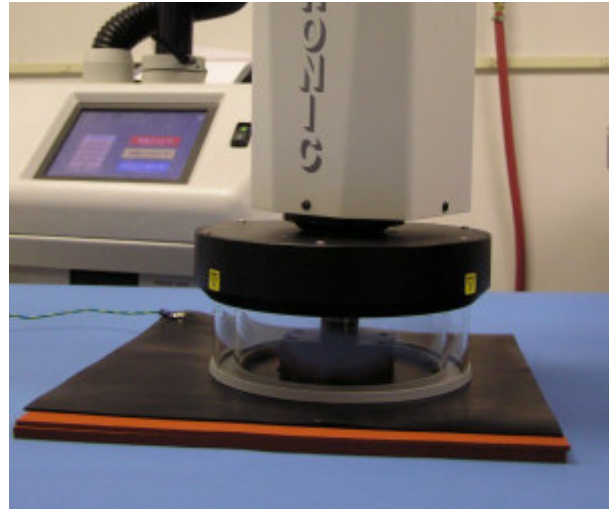

Figure 8
**STEP 4:** The thermal cap and shroud can now be lowered into position on top of the UUT, as shown in Figure 8.